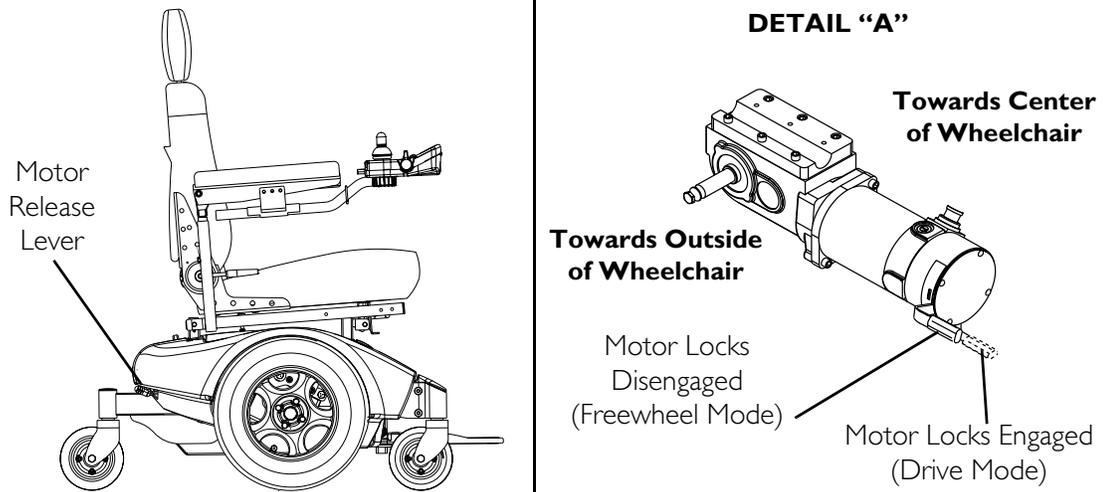

FIGURE 10.2 Engaging/Disengaging Motor Release Lever
NOTE: For this procedure, refer to FIGURE 10.2 on page 68.
- i. Slide the motor lock lever towards the outside of the wheelchair (free wheel position) as shown in Detail "A" of FIGURE 10.2.
- i. Slide the motor lock handles towards the center of the wheelchair (drive position) as shown in Detail "A" of FIGURE 10.2.